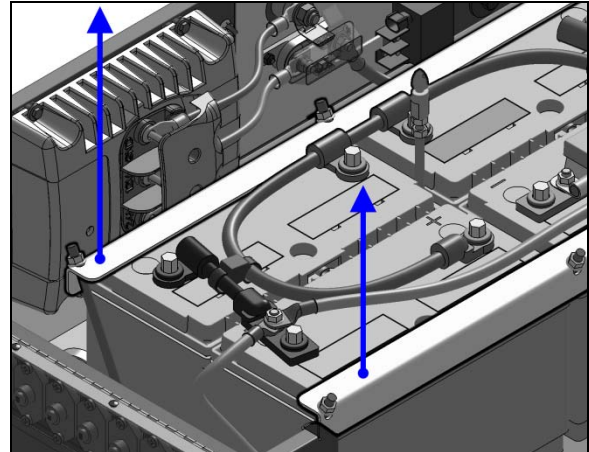

FIGURE 18: BATTERY FIXING CLAMPS REMOVAL
3. Unscrew tie-down nuts (6x) and remove clamps (2x).(Figure 18)